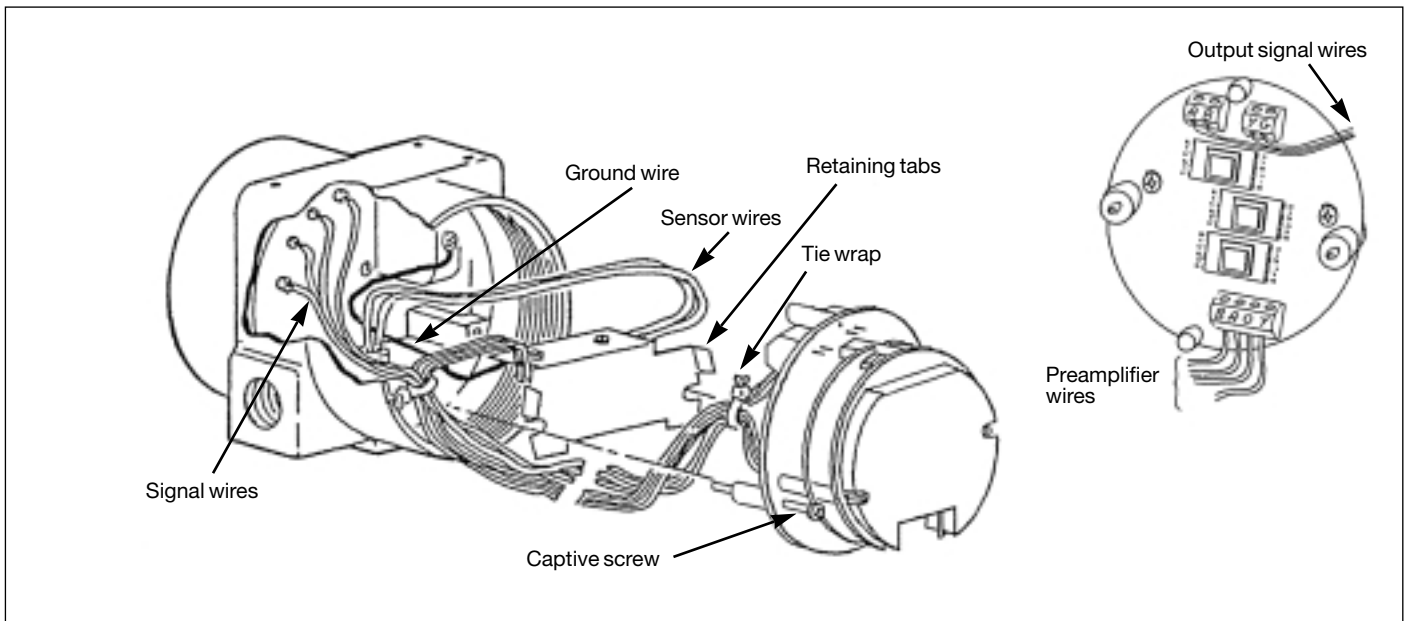

Figure 20. Electronic Module Connections - CENELEC Certified Extended and Standard Temperature Range.
- Once the lock assemblies are off, remove the electronic module cover. Unscrew the two captive screws (one on each side of the electronic module). See Figure 20.